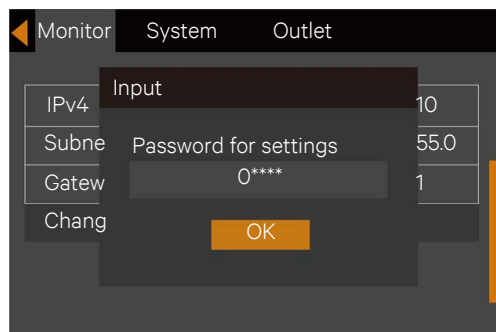

Figure 5-22 Password for settings
3. Press the  key, the interface shown in Figure 5-22 is displayed.